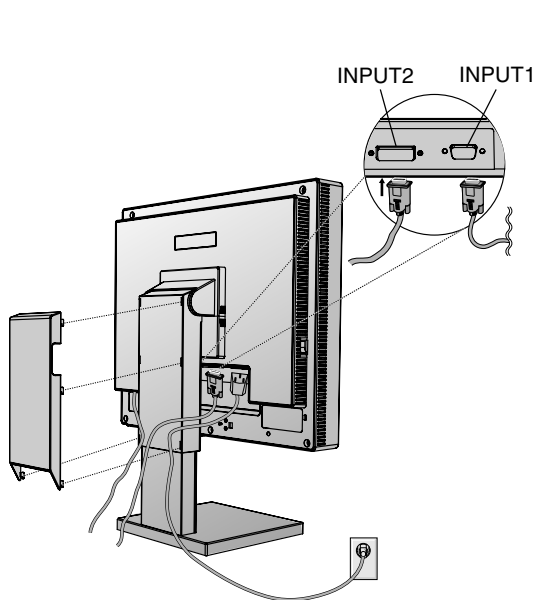
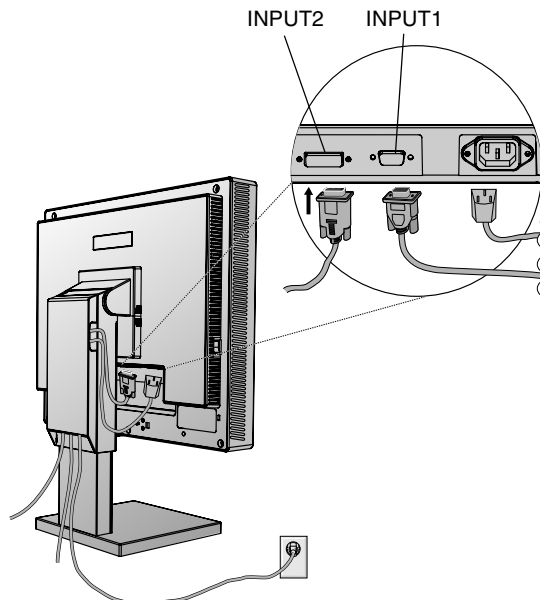

Figure C.1
Figure C.2
3. **For the PC or MAC with DVI digital output:** Connect the DVI signal cable to the connector on the back of the monitor. Place the video signal cable (**Figure C.1**). Connect only DVI to input 2.
For the PC with Analog output: Connect the 15-pin mini D-SUB to the connector on the back of the monitor. Place the video signal cable (**Figure C.1**). Connect only 15-pin mini D-SUB to input 1.
Collect cables and keep them at backside of the stand (**Figure C.1**). And cover the cables by the optional Cable management Cover (**Figure C.2**).
4. Connect one end of the power cord to the AC inlet on the back of the monitor and the other end to the power outlet (**Figure C.1**).